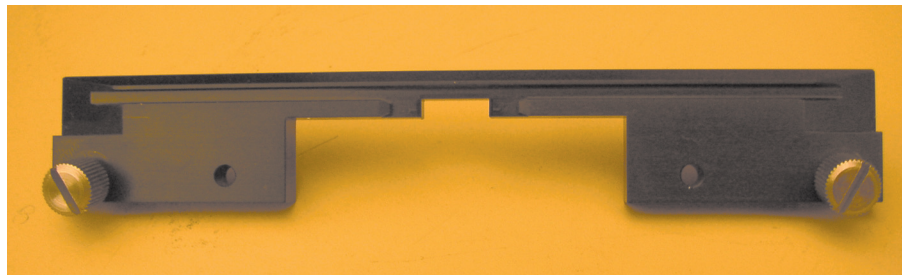

Fig. 17: The rear cassette guide, removed.
5. Remove the rear cassette guide from the autoloader back plate (Fig. 17).